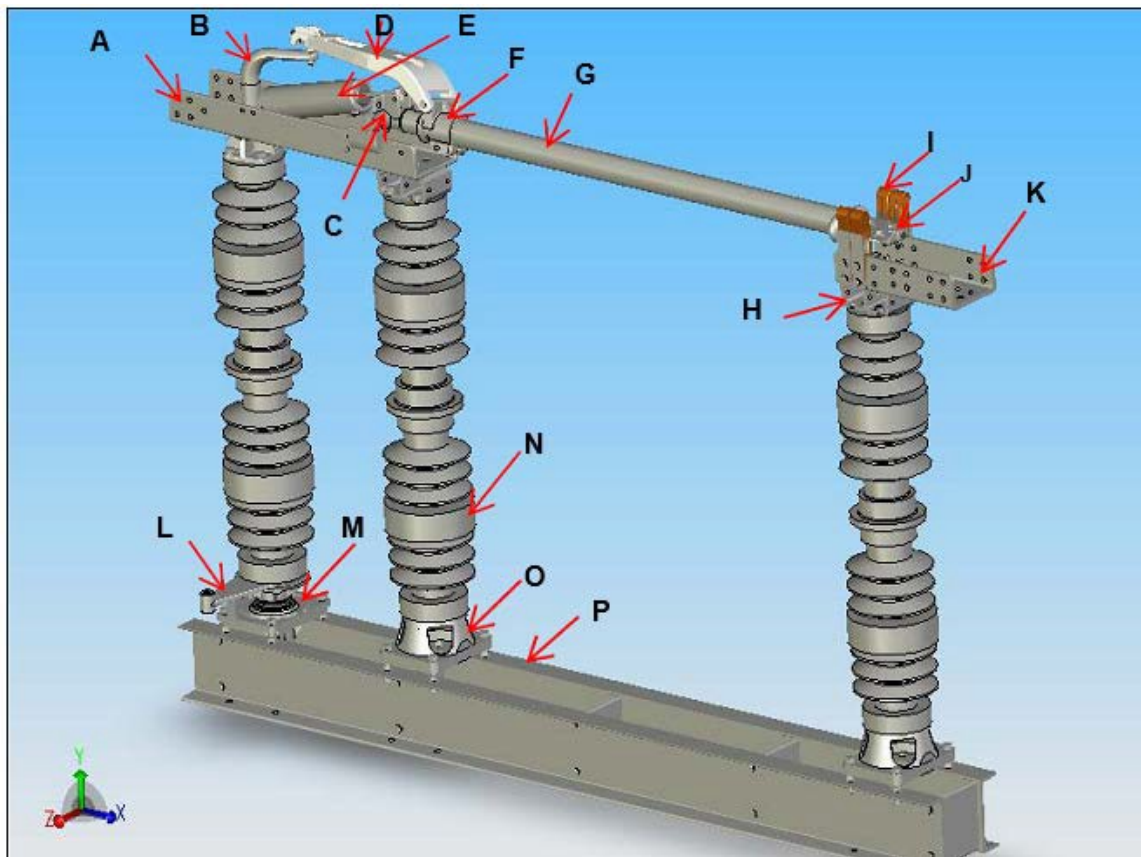
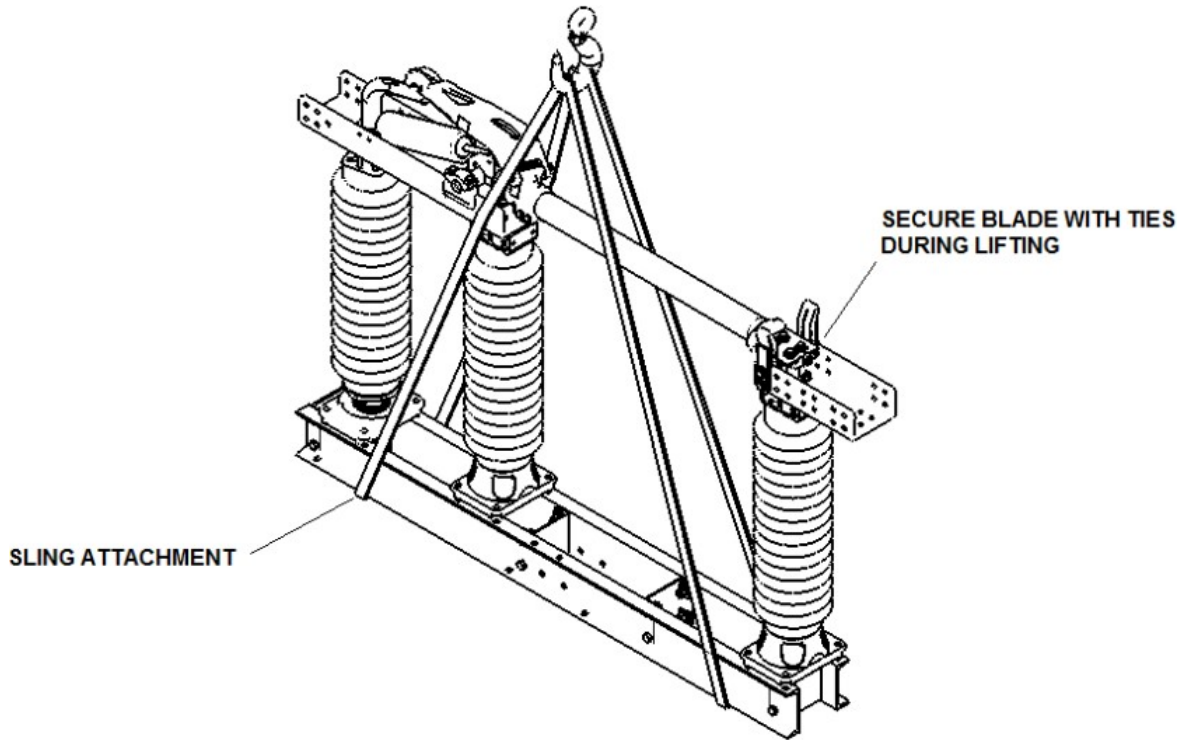

Figure 1: Typical EV-2 disconnect switch & Common Terminology
Figure 9: Sling Attachment
- 1.2.1. Alternately (and easier) each pole may be assembled on the ground and hoisted to the structure as a complete unit. **CAUTION:** To prevent overturning during assembly, the switch base must be bolted to a level, stable platform (e.g. metal sawhorses). **CAUTION:** Lift fully assembled pole unit by the base only. **DO NOT** lift the pole unit by the live parts. Refer to **Figure 1** and **Figure 9**.
- 4.4. Lift the assembled switch by the switch base only. Refer to **Figure 9**.